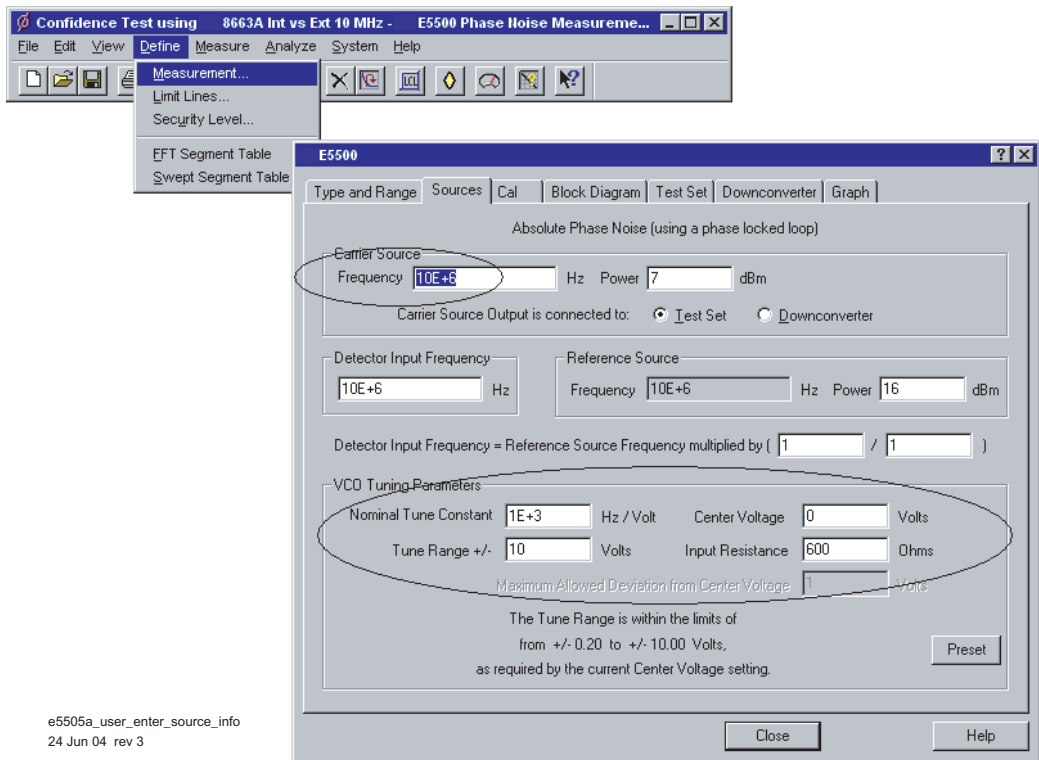

Figure 37 Enter Source Information
- 4 Using Figure 37 as a guide, navigate to the **Sources** tab.